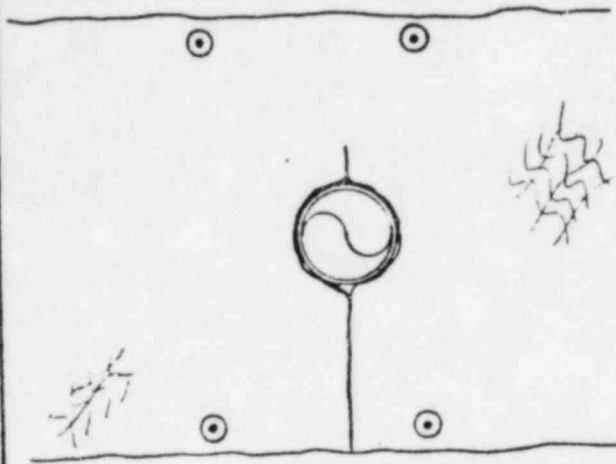

FIGURE 1
- 6.1.1 Cut affected blanket to a depth sufficient to allow the blanket to be installed around the penetrating member. (See Figure 1).